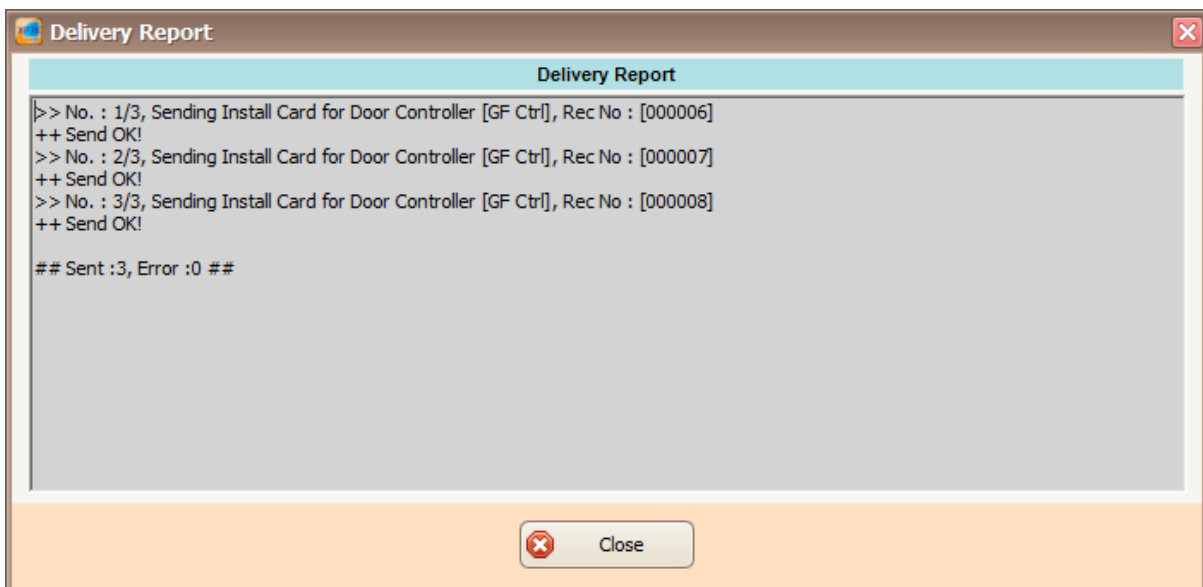

Figure 86 - Delivery Report (Install Card)
19. After downloading all the settings, it will display a report of data being sent. Click Close to return to Staff Detail Setup menu (Refer **Figure 86**).